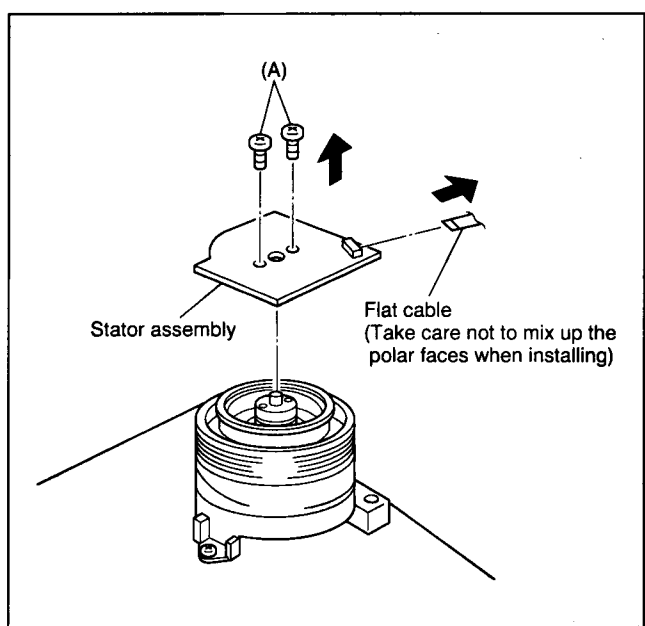
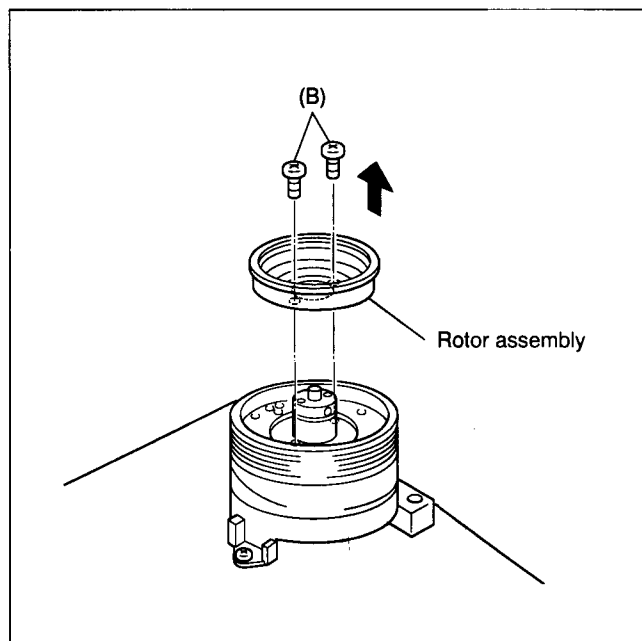
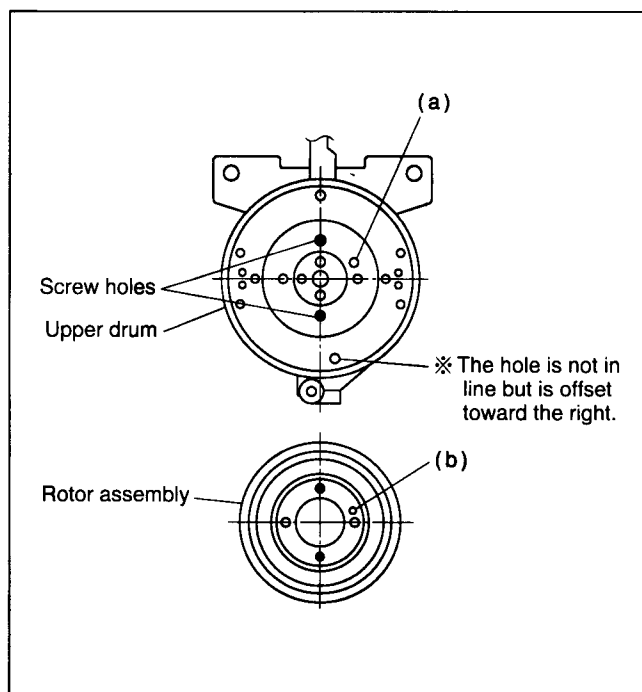

Fig. 2-2-36
Fig. 2-2-37
Fig. 2-2-38
- (3) Match the phases of the upper drum and the rotor assembly as indicated in Fig.2-2-38.
- (4) Place the upper drum hole (a) over the rotor assembly holes (b) (with three holes to be aligned) and tighten the two screws (B). (See Fig.2-2-38)
- (1) Remove the stator assembly and rotor assembly. (See Fig. 2.2.36 and Fig. 2.2.37)
- (2) Loosen the screw of the collar assembly using a 1.5 mm hexagonal wrench and remove the collar assembly. Also remove the brush, spring and cap at one time.
- (3) Remove the upper drum assembly and remove the washer using tweezers.
- (5) After installation, gently turn the upper drum with your hand to make sure that it turns normally.
- (6) Install the rotor assembly and stator assembly according to Fig. 2.2.36 and Fig. 2.2.38.
- (7) When installation is complete, clean the upper drum assembly and lower the drum assembly and carry out the following adjustments.